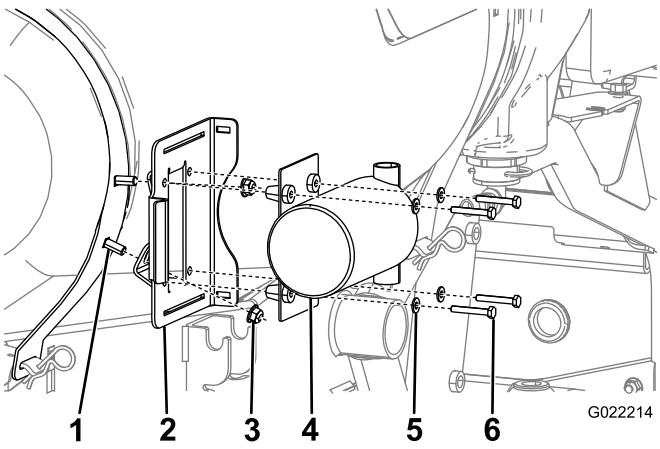

Figure 9
4. Attach the rinse pump mounting bracket to the previously installed carriage bolts using 2 flange nuts (Figure 9).
6. Secure the pump to the frame using the 4 bolts and 4 small washers (Figure 9).